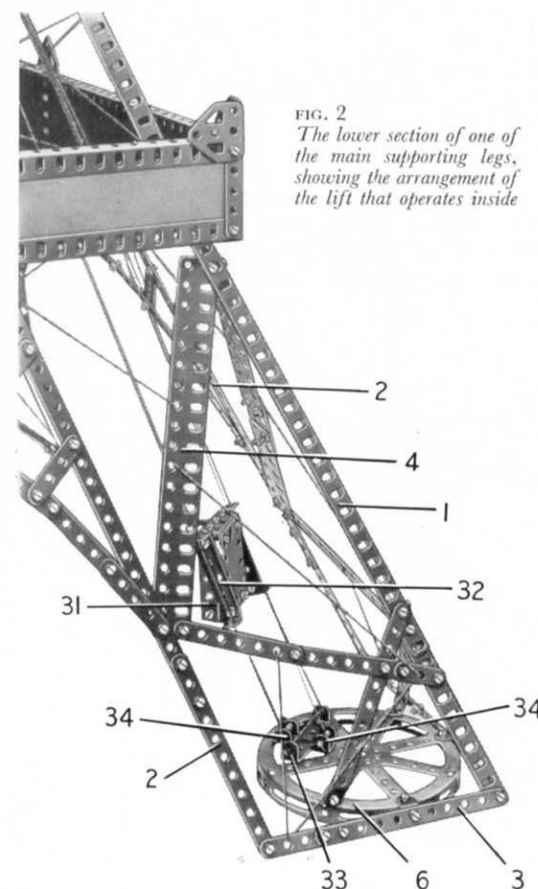
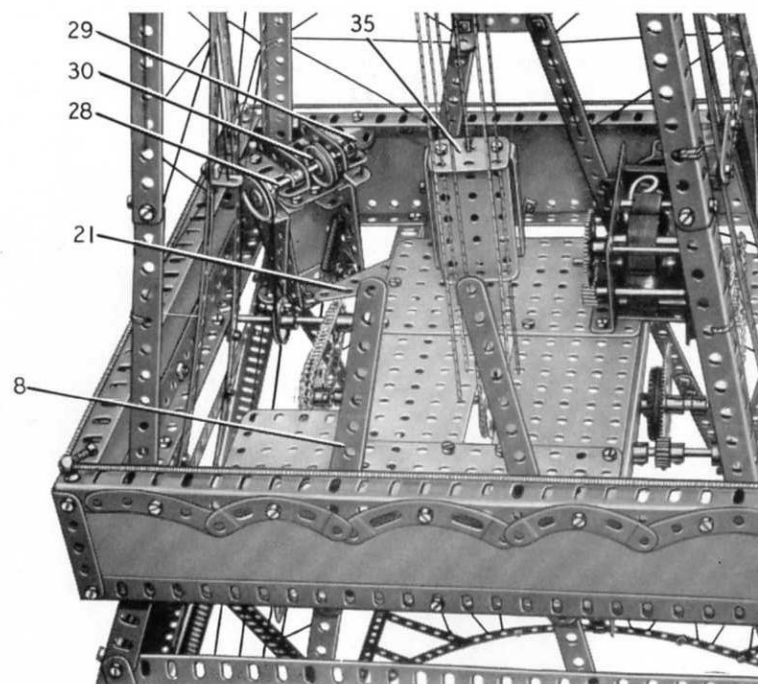

FIG. 2
FIG. 7 Another view of the centre landing platform
### Details of the Lifts (Figs. 2, 5, 6 and 7)
The lift working to the centre platform is made by bolting 1½" Angle Girders to each end of a 2½" × 1½" Flexible Plate. A 2½" × ½" Double Angle Strip (31) (Fig. 2) on each side is fixed between the Angle Girders, and a further 2½" × ½" Double Angle Strip (32) is arranged on each side. The Double Angle Strips (31) and (32) are bolted together at the top and are connected by a Fishplate at their lower ends. The guides for this lift are provided by a length of Cord tied to one of the 2" Angle Girders bolted to girder (29) (Fig. 7). The Cord is passed through the lugs of one of the Double Angle Strips (32), through a 2½" × ½" Double Angle Strip (33) (Fig. 2) bolted to the Hub Disc (6), and through the lugs of the other Double Angle Strip (32). The Cord is pulled tight and is tied to the second 2" Angle Girder. The lift-operating Cord is tied to a Fishplate bolted to the top 1½" Angle Girder of the lift and to a Tension Spring placed between the two Angle Girders; it is then taken over Pulley (30) (Fig. 7) and round two 1" Rods held by Spring Clips in Double Brackets (34) (Fig. 2). The Cord is then passed through the lower 1½" Angle Girder of the lift and is tied to the bottom loop of the Tension Spring so that the Spring is stretched slightly.